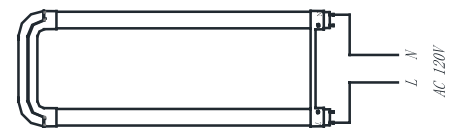

Fig. 3
STEP 6: In accordance with the below drawing, connect the wires of “L” and “N”, shown as below, Fig. 3: